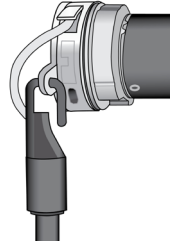

Figure 1: Wand Hook Connection
2. Insert the hook on the end of the wand into the eyelet on the motor head and push it all the way through so the wand hangs down freely **[Figure 1]**.
If for some reason the shade direction is reversed, press and hold the Setting Button on the motor head until the shade jogs 2 times **[Figure 1]**.
1. Press & Hold the Setting Button on the motor head until the shade jogs 3 times **[Figure 1]**. This removes all programming.